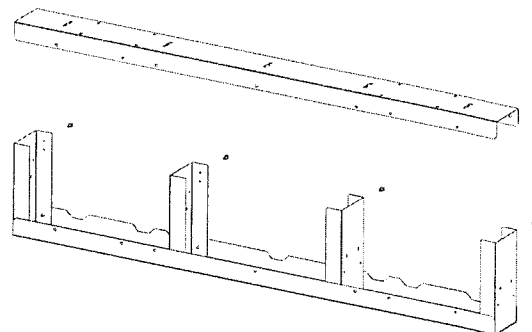

Figure 4.5
- C. Re-attach the upper bar to the remaining studs. Fig. 4-5.